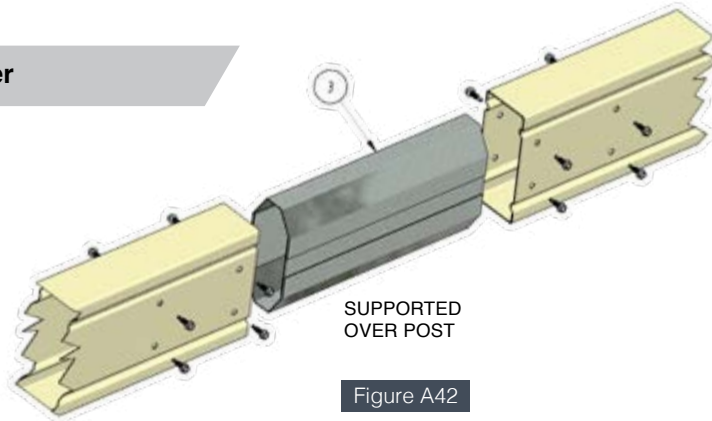

Figure A42
**Steel Inline Beam Joiner (See Figure A42)**